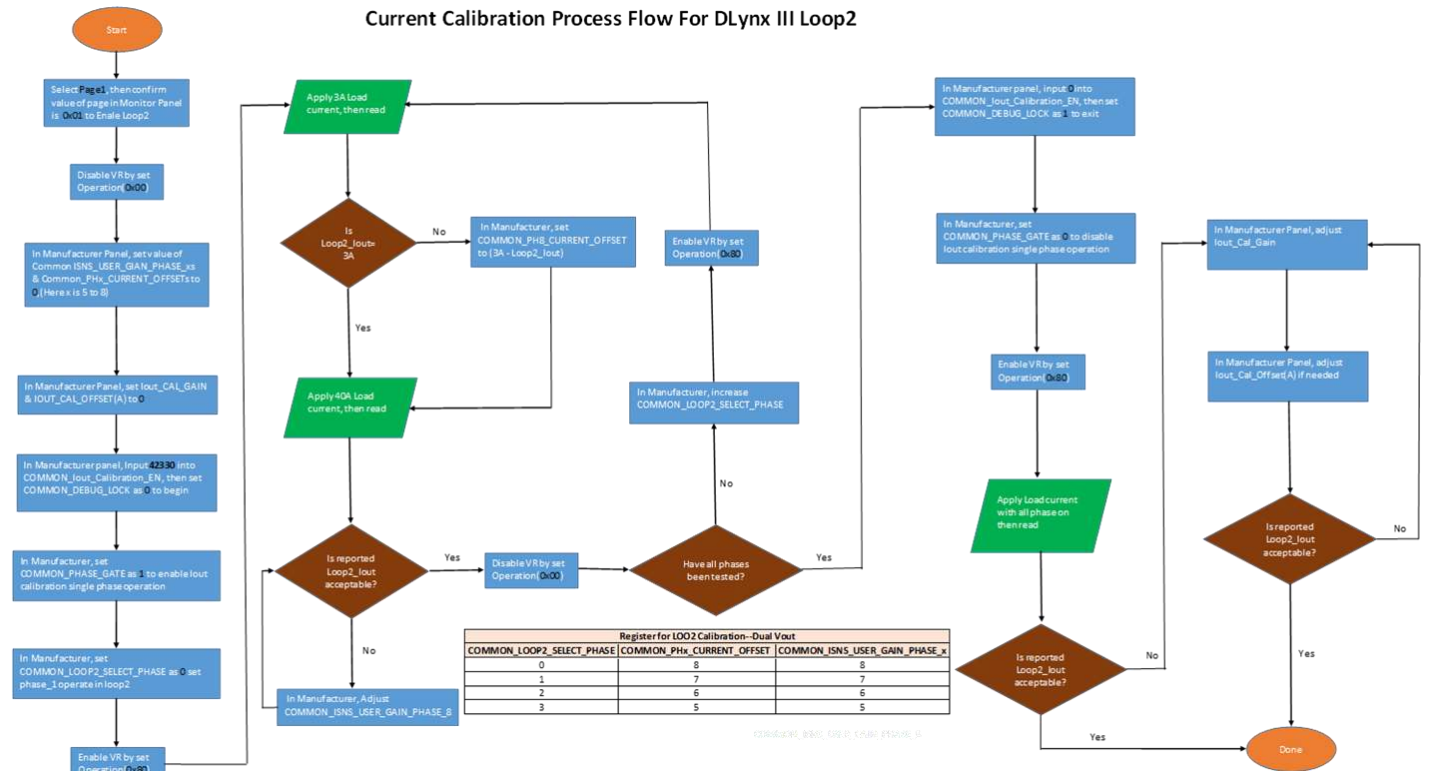

Figure 30. Output Current Calibration Process Flow—Loop 2
6. On bottom side of the customer board place a minimum of 10uF and 1uF input capacitor directly under vin and keep additional input capacitance as close to Vin under each of the phases. **Figure 30. Example of split input-output ground** Additional input capacitance can be placed on top surface of board. All phases need to have same amount of input capacitance.